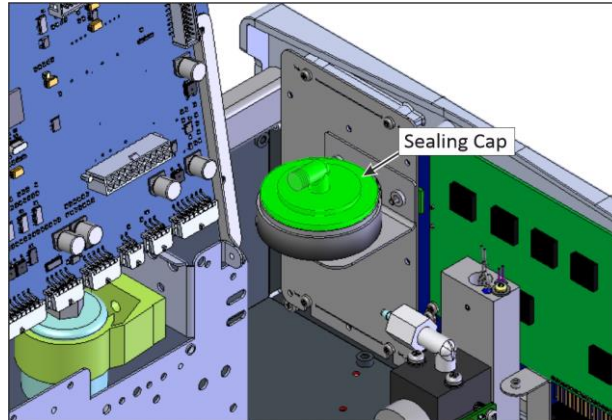

Figure 129 – Remove Filter Sealing Cap
5. Refer to Figure 129. Remove the sample filter holder sealing cap.